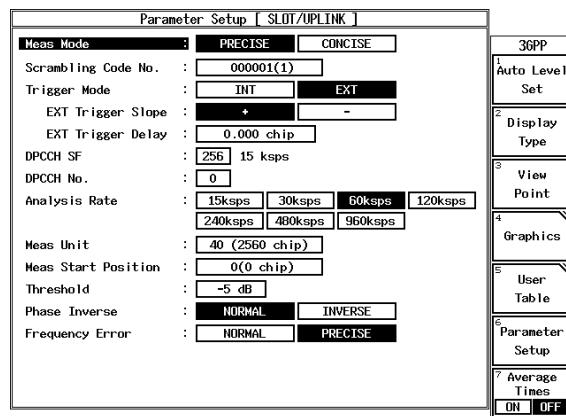

Figure 6-5 Setting of Measurement Parameters for Up Link (RF Input)
6. On the R3267 Series, set the measurement parameters as shown in Figure 6-5.